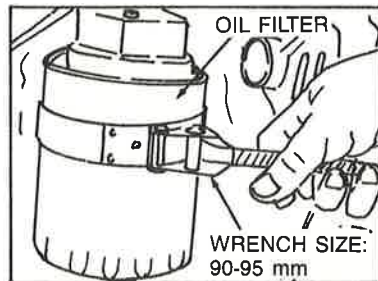

Figure 43. Removal of Oil Filter
- Turn filter counterclockwise to loosen. See Figure 43. Remove and discard the old filter.